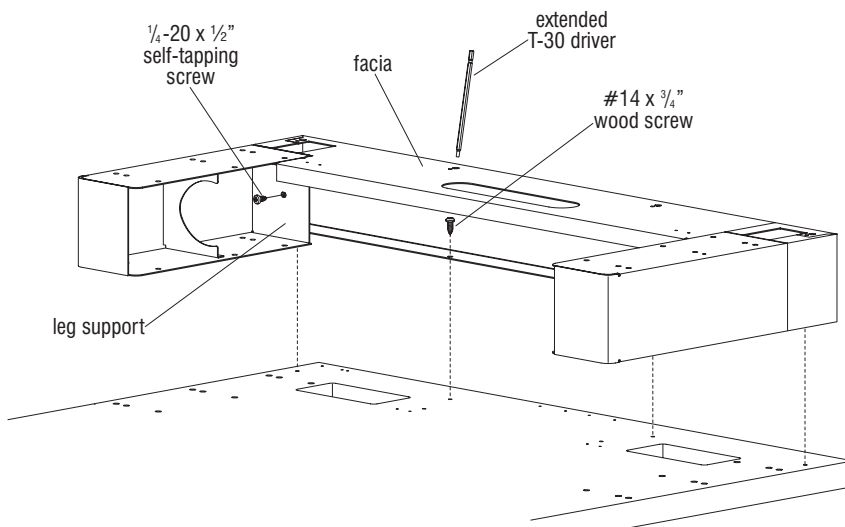

Figure 2
4. Using the four #14 x 3/4" wood screws from the power beam hardware kit, mount the wheelchair kit fascia section to the underside of the work surface using the extended T-30 driver through the pass-through holes in the fascia (Figure 2).